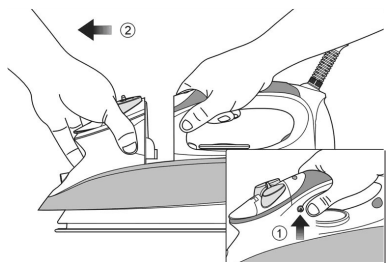

Fig. 1
2. Press the Water Tank Eject Button, then thrust the water tank. (See Fig.1)